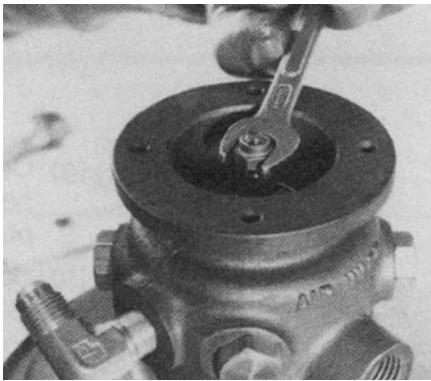

Figure 4-5 Removing self-locking nut from connecting rod.
- 4.5 Use 7/16" wrench to remove self-locking nut (44) from connecting rod (37). See Figure 4-5.